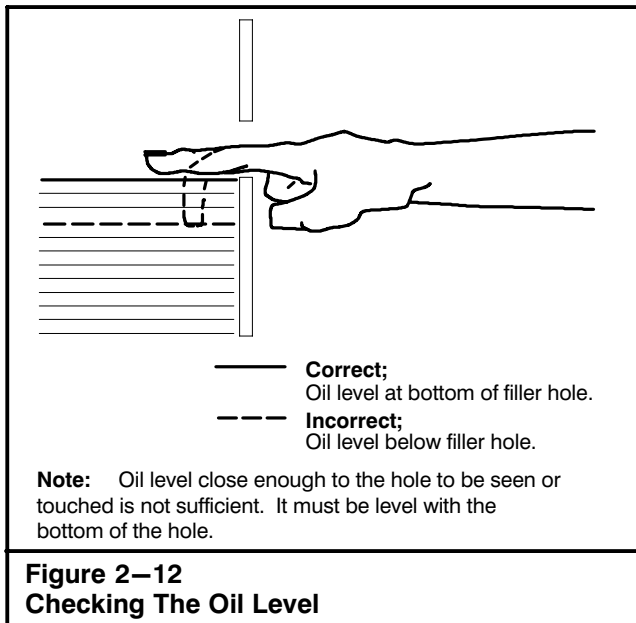

Figure 2-12
4. Remove the check plug. Oil should be level with the bottom of the hole. Refer to Figure 2-12.
5. If necessary, remove the fill plug and add oil until it begins to flow from the check plug hole. Refer to Figure 2-12. Refer to the Lubrication Chart for the correct grade of oil.
7. Fill the unit with oil through the fill plug hole, until oil is level with the bottom of the check plug hole. Refer to Figure 2-12. Refer to the Lubrication Chart for the correct grade and quantity of oil.